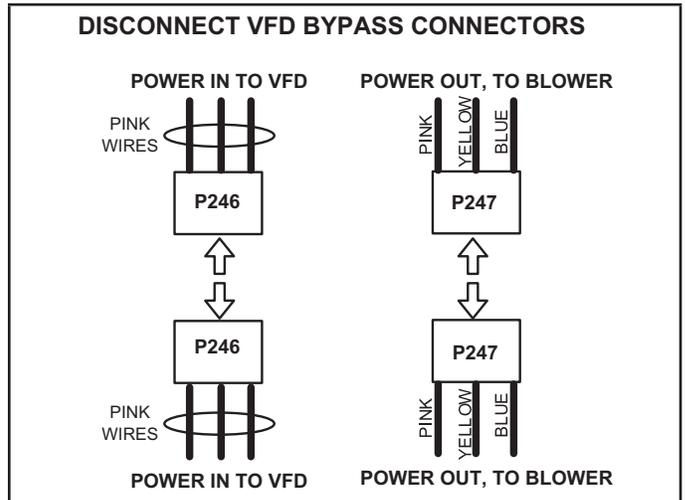

FIGURE 35
- 3 - Disconnect P246 from P246 (power in to VFD) and P247 from P247 (power out to blower). See FIGURE 35.